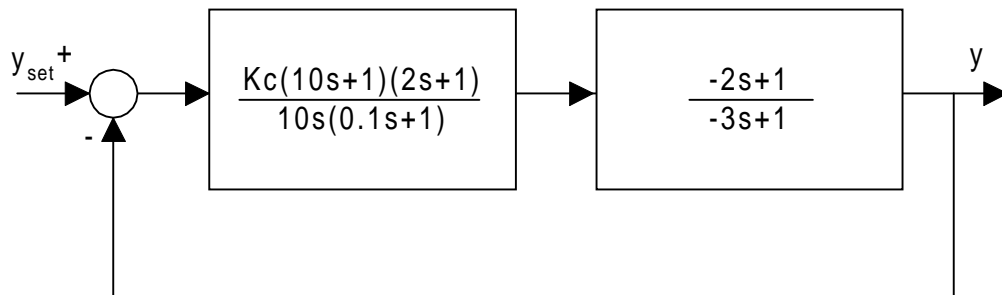

Figure 5.
4. (25 pts) Use the Routh-Hurwitz method to determine the range of K_c that would stabilize the feedback controlled process shown in Figure 5.